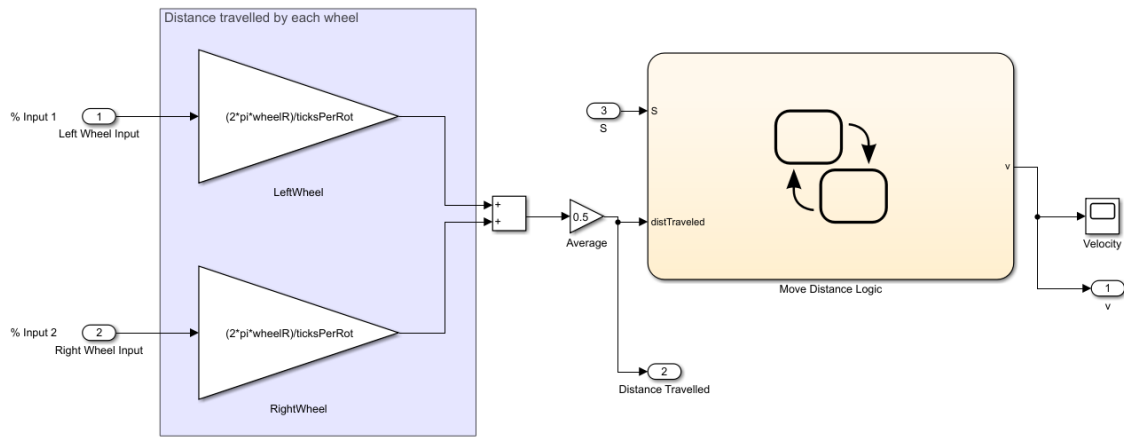

Figure 1.0.1: Distance Control with inputs
2. Convert encoder ticks into distance using the shown equation in Figure 1.0.1
Figure 1.0.1 above, shows the Functional Blocks used within the whole distance control subsystem. The left blocks contain the equations used for rotation of the left and right wheels, the output which goes into the State Flow block. The State Flow block contains the logic used for distance control of the robot and outputs a velocity for the robot.